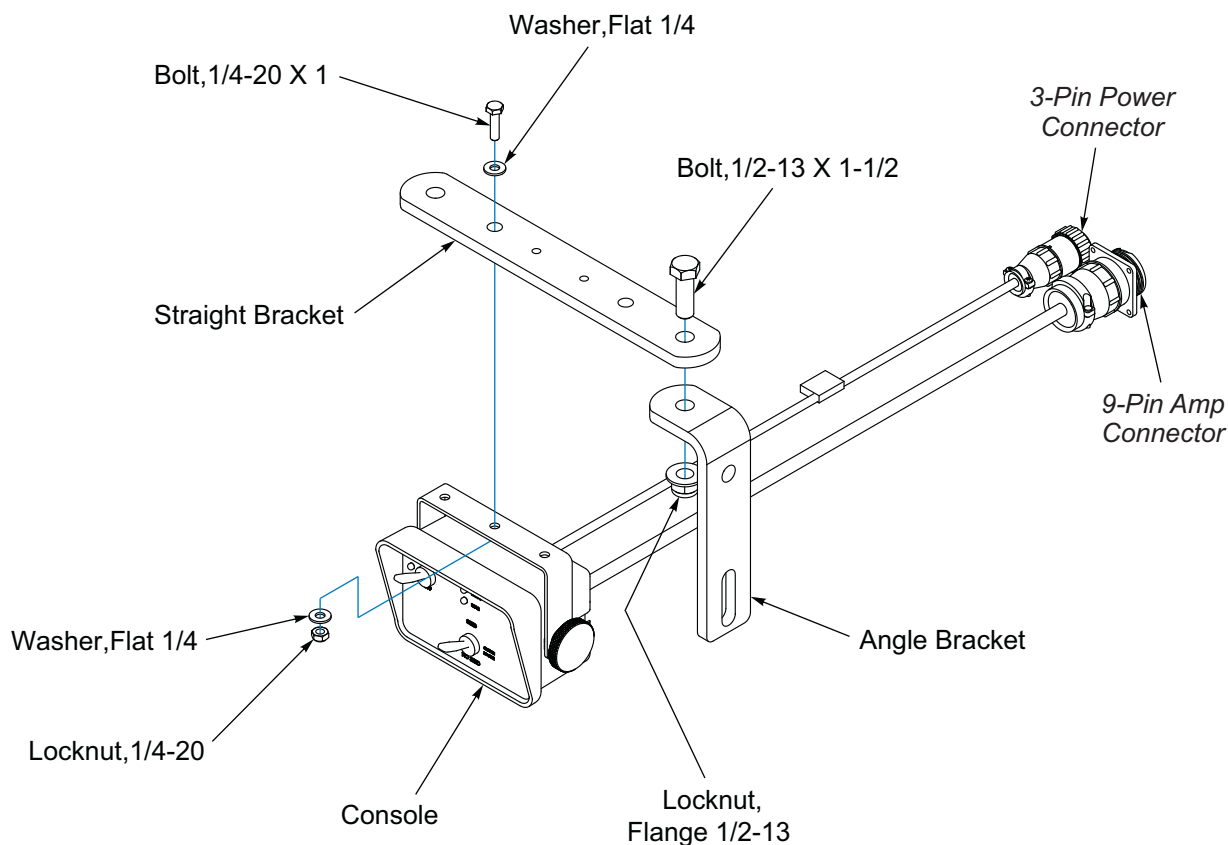

Figure 2-41: Console w/Clutch Control Tractor Installation
1. Mount Angle Bracket onto Tractor where convenient for the operator. **See Figure 2-41.**